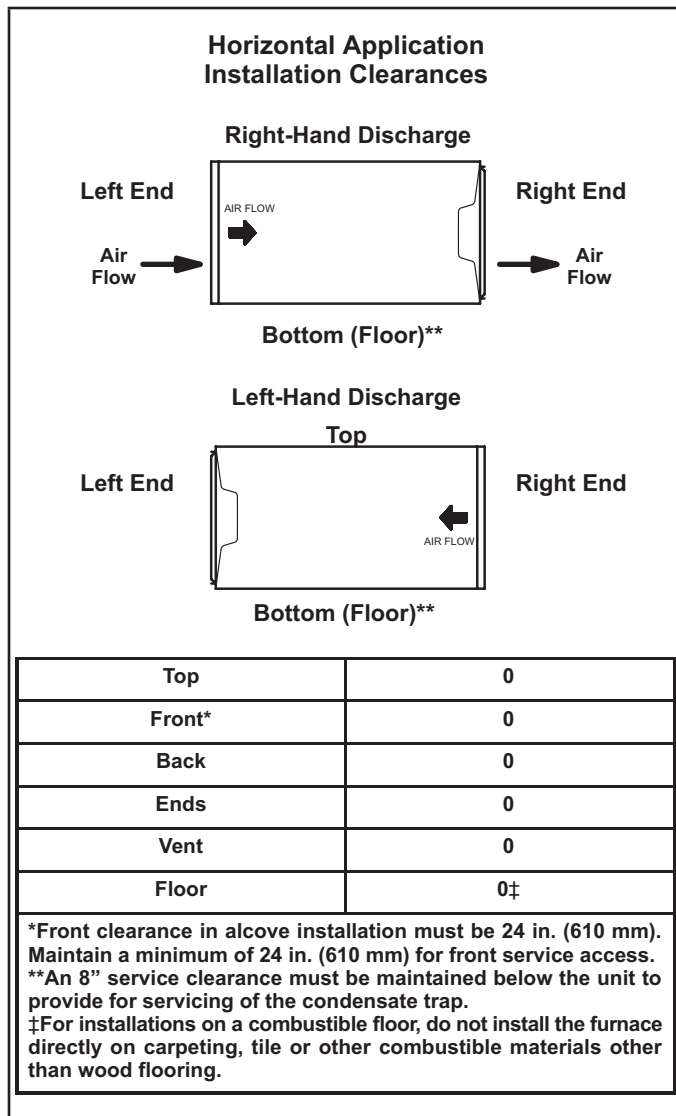

Figure 17
The EL196UHEK furnace can be installed in horizontal applications with either right- or left-hand air discharge. Refer to Figure 17 for clearances in horizontal applications.
- 1 - Select location for unit keeping in mind service and other necessary clearances. See Figure 17.